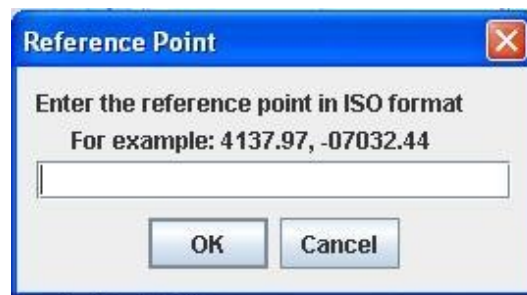

Figure 6-8. Reference Point Dialog.
3. Enter a name for the map (e.g. new-york-harbor-NY) and select 'OK'. This will result in two further dialogs (similar to that shown in Figure 6-8) requesting the lower-left and upper-right map coordinates respectively.
2. Enter a name for the map (e.g. new-york-harbor-NY) and select 'OK'. This will result in two further dialogs (similar to that shown in Figure 6-8) requesting the lower-left and upper-right map coordinates respectively.
It is sometimes useful to add visible reference points to the currently displayed map. This can be achieved by selecting Maps/Draw Reference Point, from the Glmpc Terminal's menu bar. The resulting dialog (shown in Figure 6-8) appears, requesting the user to enter the reference point latitude and longitude, in the ISO format  $\pm DDMM.MMM$ ,  $\pm DDDMM.MMM$ .